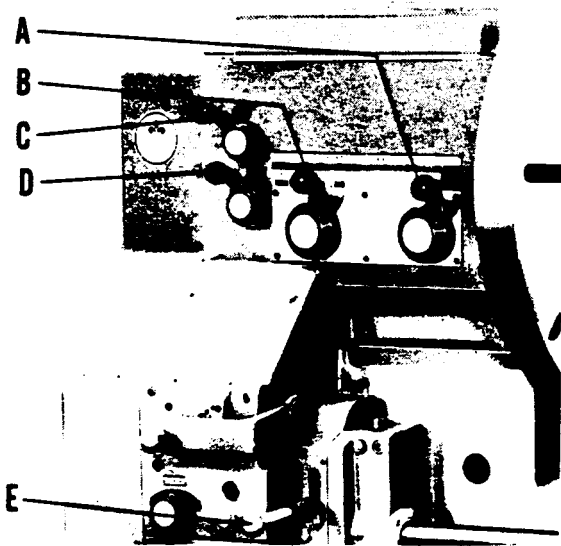

Fig. 4
The lathe Headstock, Figure 4, provides eight (8) gear-driven spindle speeds and four (4) belt driven spindle speeds for smooth, quiet operation. No gears, other than the feed gears, are in mesh on the spindle when in the belt range. The speeds are easily selected by two levers (A) and (B), and a direct reading colorplate. The spindle is supported by three bearings.